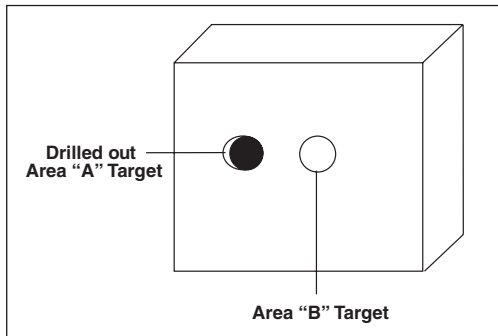

Figure C-2. Determining Emissivity with a Drilled Hole
3. Set the emissivity to 0.97 and measure and record the temperature of the hole in the sample material - Area "A" in Figure C-2. Make sure that the hole fills the FOV of the thermometer.
4. Aim the thermometer at another spot on the target as close as possible to Area "A" (Area "B" in Figure C-2).